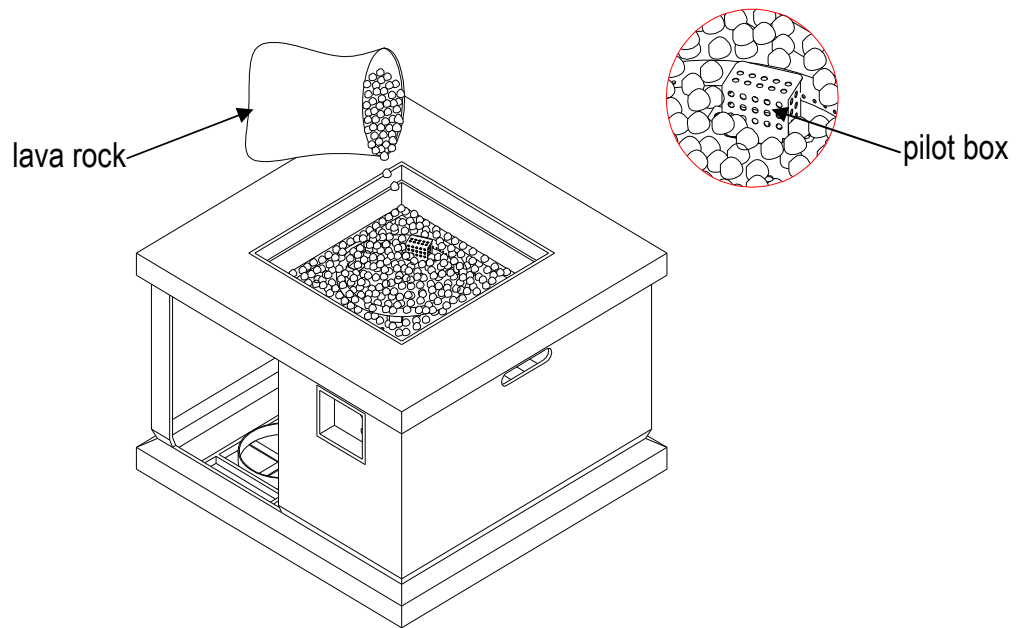

Figure 1
- Put the Lava rock around the burner until lava rocks are just over the top of the burner, see Figure 1. A gas fire pit requires 6 kg lava rock. **NOTE: DO NOT completely cover the burner element or block the pilot box with the lava rocks. When the first use, preheat the lava rocks for 15 minutes to burn out the impurities and air in the natural lava rocks.**